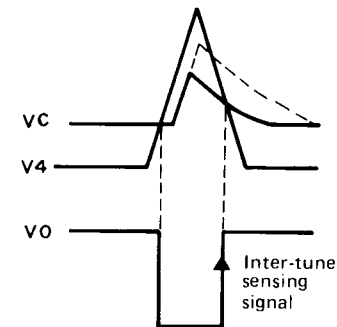

Fig. 5
6) A4 is a comparator with hysteresis, and it compares V4 and Vc, and makes the rise of its output V0 the inter-tune sensing signal. (Refer to Fig. 5)
Fig. 5 a. Inter-tune sensing signal